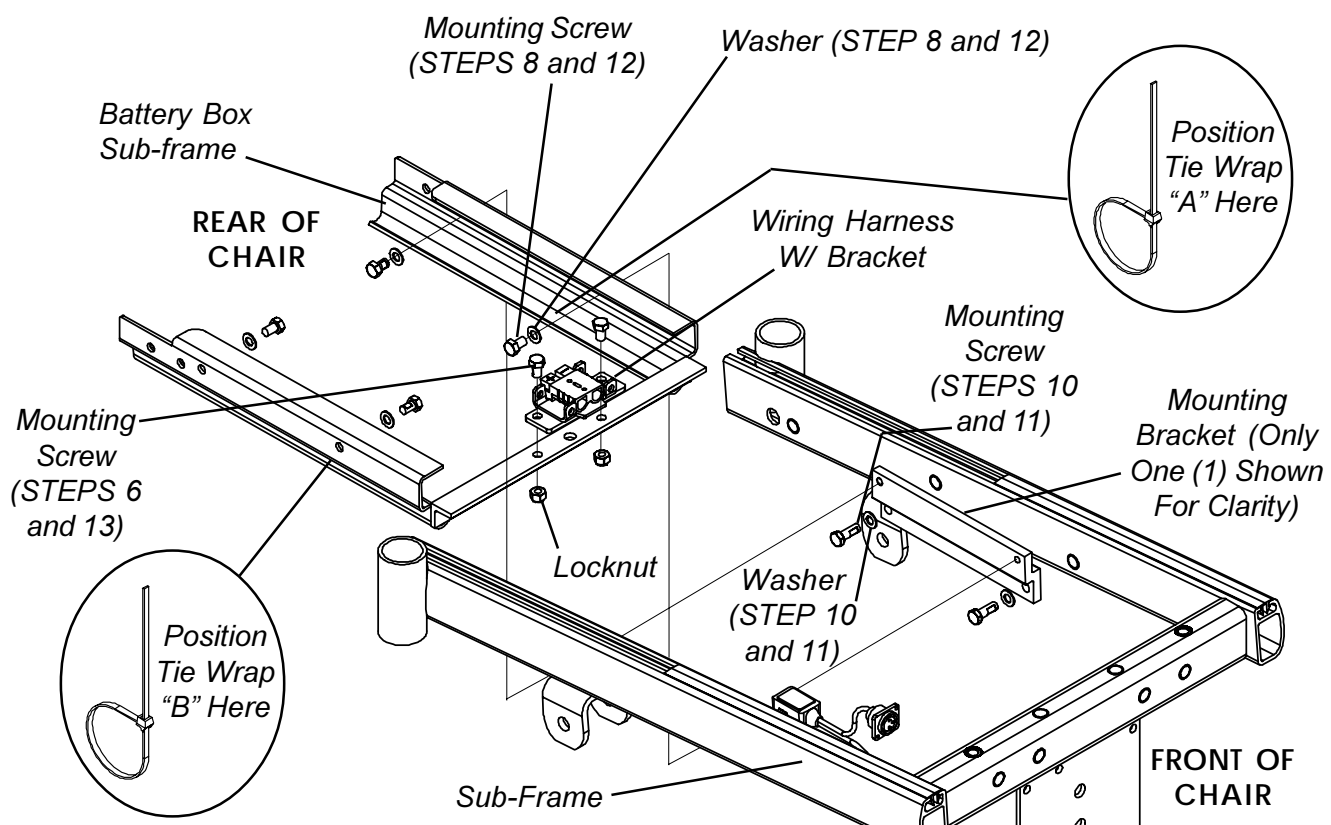

FIGURE 5 - REMOVING/INSTALLING GROUP 24 BATTERY BOX SUB-FRAME
## REPLACING GROUP 24 BATTERY BOX SUB-FRAME (FIGURE 5)
6. Remove the two (2) mounting screws and locknuts that secure the wiring harness w/bracket to the battery box sub-frame.
8. Remove the four (4) mounting screws and washers that secure the battery box sub-frame to the mounting brackets.
10. Remove the four (4) mounting screws and washers that secure the two (2) mounting brackets to the sub-frame.
11. Install the four (4) mounting screws and washers that secure the two (2) NEW mounting brackets to the sub-frame.
12. Install the four (4) mounting screws that secure the NEW battery box sub-frame to the mounting brackets. Use Loctite 242 and torque mounting screws to 156-inch pounds.
13. Install the two (2) mounting screws and locknuts that secure the wiring harness w/bracket to the NEW battery box sub-frame. Use Loctite 242 and torque mounting screws to 160-inch pounds.
14. Secure the sensor cable **AND** the LEFT motor cable to the NEW battery box sub-frame using tie wrap A. Refer to FIGURE 5 for tie wrap positioning.
15. Secure the battery charger cable **AND** the RIGHT motor cable to the NEW battery box sub-frame using tie wrap B. Refer to FIGURE 5 for tie wrap positioning.